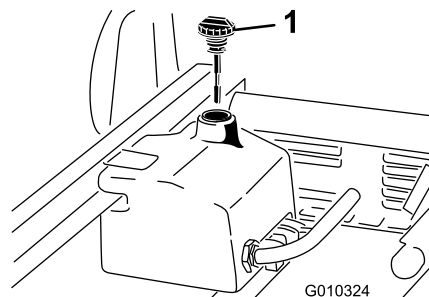

Figure 20
1. Clean the area around the filler neck and the cap of the hydraulic tank (Figure 20).
3. Remove the dipstick (Figure 20) from the filler neck and wipe it with a clean rag.